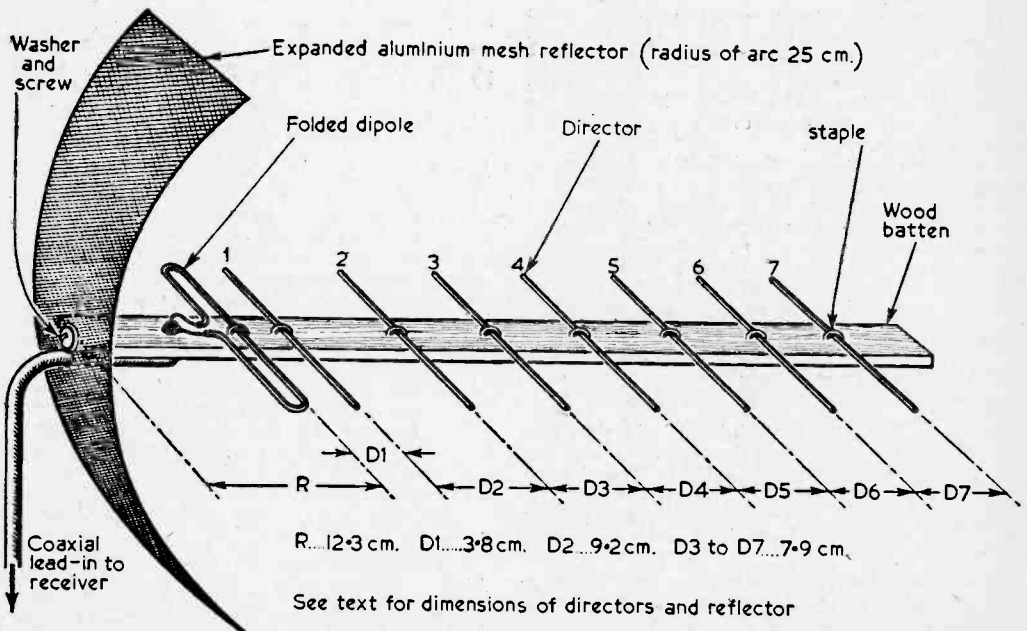

Fig. 1—The Band V aerial—the distances between the elements are indicated above while the dimensions of the elements themselves are given in the table.
#### TABLE OF TUBULAR LENGTHS (See Fig. 1)
**Fig. 1**—Interference can be caused by sparking occurring between the brushes and commutator of armature type electric motors. The trouble is aggravated by wear on the brushes or commutator. Induction motors, which do not use brushes, are free from interference.
Prolonged sparking takes place between the brushes and the commutator of electric motors having armatures as shown in Fig. 1. As the armature and commutator rotate, so the current is disconnected and connected very rapidly and the sparking is almost continuous. This produces a continuous buzz on sound and bright, horizontal lines across the picture. The amount of interference radiated is almost proportional to the size of the spark, which means that on a motor with worn brushes or commutator the interference is likely to be very high indeed.